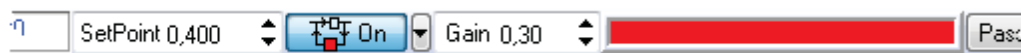

Fig. 10-3. Scanner is maximally extended
2. Click the  button in the top bar to close the feedback loop (the button will change its appearance to ). This starts extension of the Z scanner to its maximum. Progress of the extension is displayed in the Scanner extension indicator (see Fig. 10-3) by degree of the colored filling.